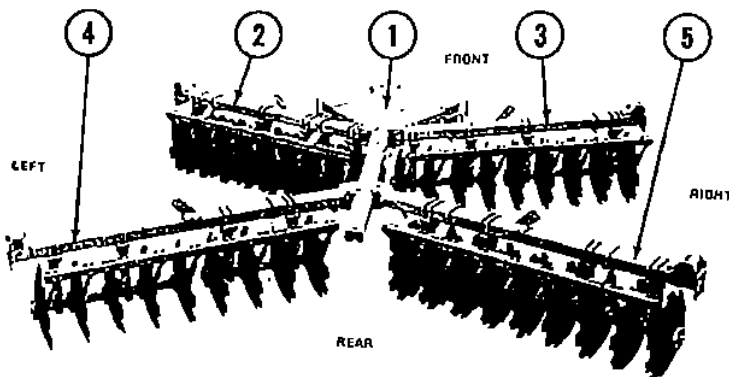

FIG. 12
2. Position the *Center Frame Bundle* (Item 1, Fig. 12) Bundle No. 201069 in the center of the work area. Block the center frame bundle up approximately 3 feet off the ground level.
3. Position the *Left and Right Front Gang Bundles* (Bundle Nos. 201580, 201581) (Items 2 and 3) as shown in Fig. 12. Block up the bundles so they will be in an upright position. Remove the gang bolt ($\frac{7}{8}$ " x $6\frac{1}{2}$ "") and bushings. Position the spacer bushing into the center frame bracket and attach the ends of each front gang bundle onto the bracket provided on the center frame bundle (Item 1).
4. Set the *Right and Left Rear Gang Bundles* (Bundle No. 201582, 201583, Items 4 and 5, Fig. 12) in position as described in Step 3 and secure to the center frame (Item 1) as shown in Fig. 77.